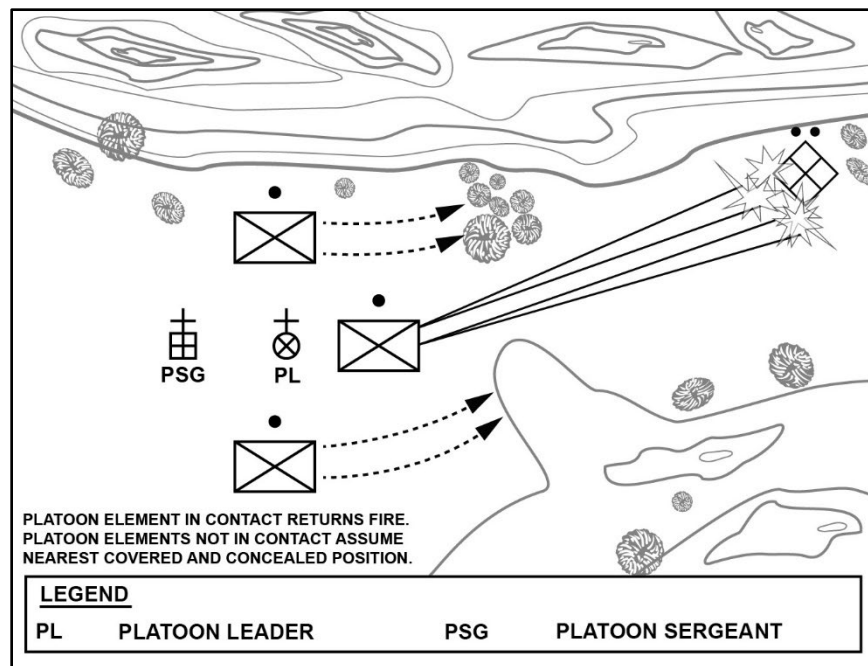

Figure B-1. Return fire, and nearest covered and concealed positions
2. The squad not in contact assumes the nearest covered and concealed position. (See figure B-1.)